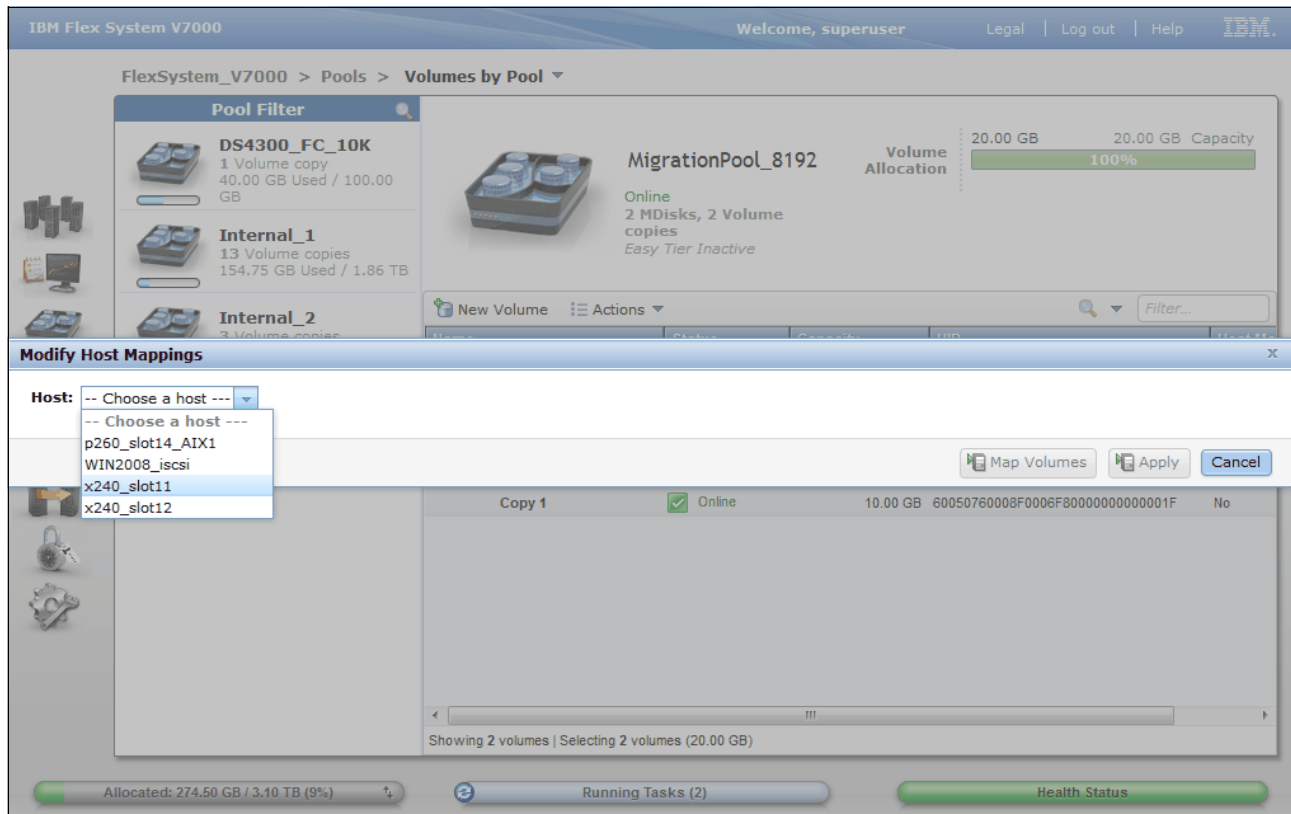

Figure 7-29 Modify Host Mappings - Choose a host
- Figure 7-29 on page 290 shows the next step of the mapping process. The wizard shows all the hosts currently configured on the IBM Flex System V7000 Storage Node and lets us select which host we want to map the volume.